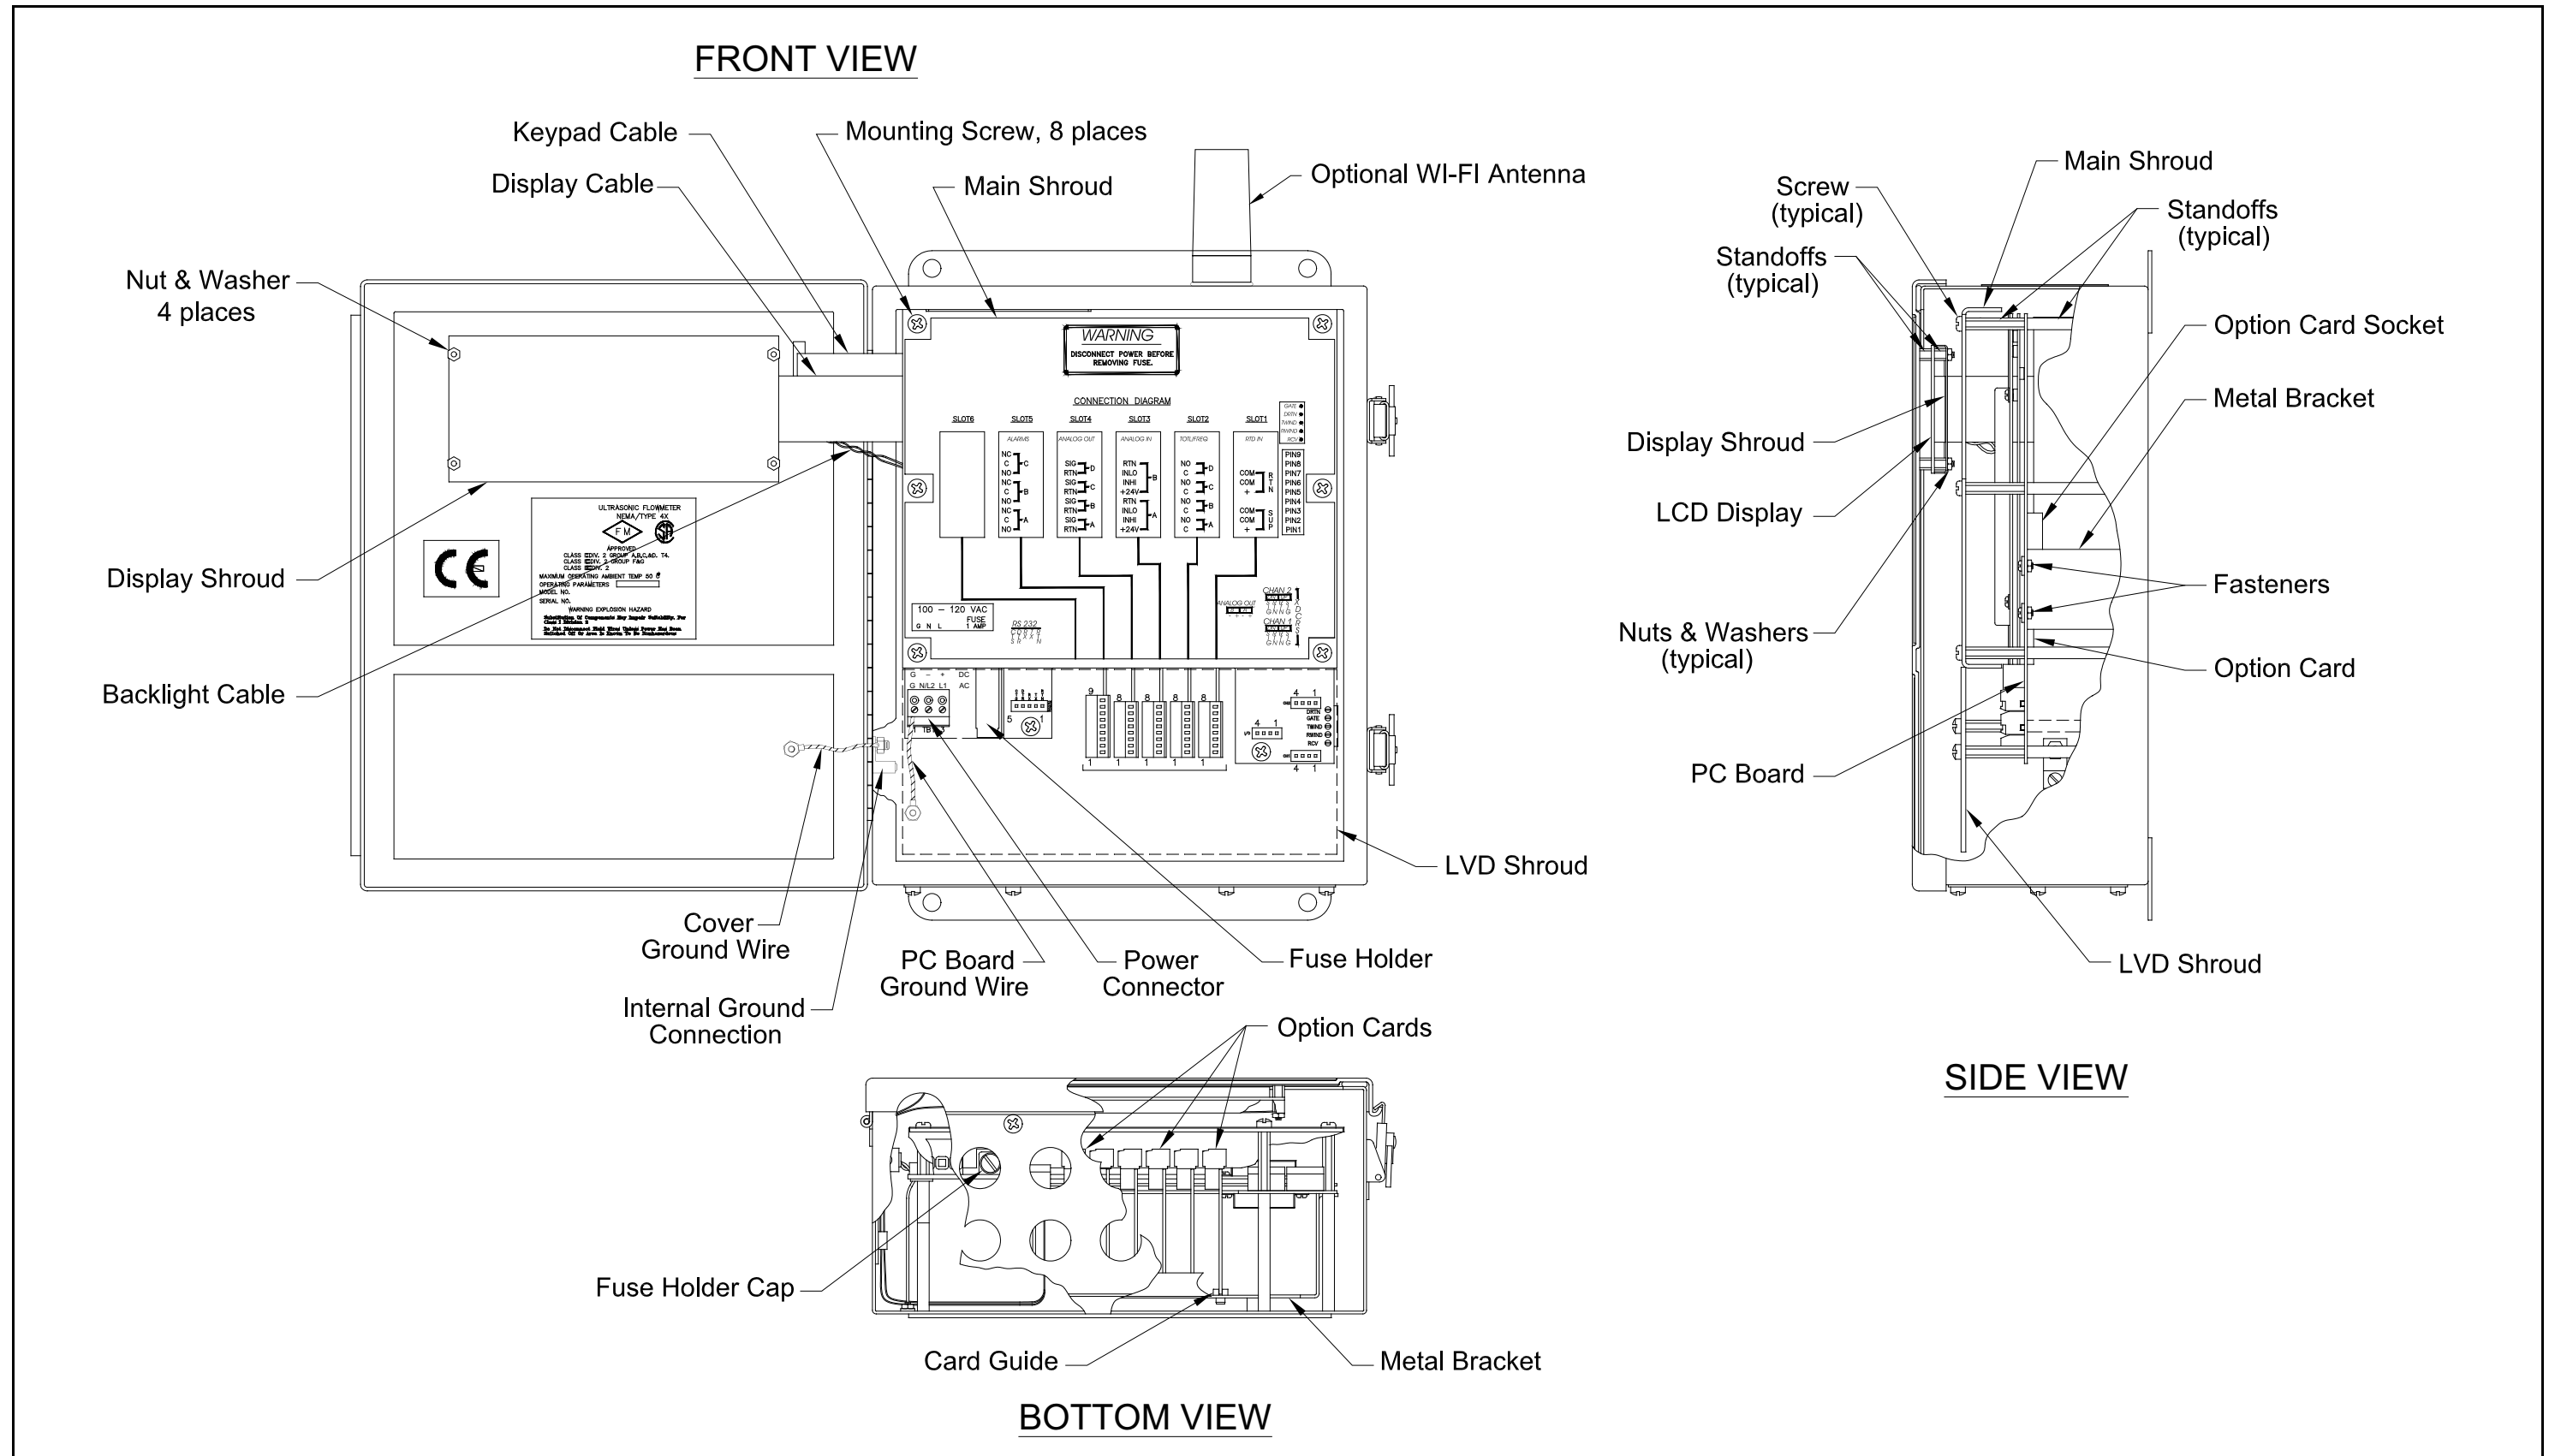
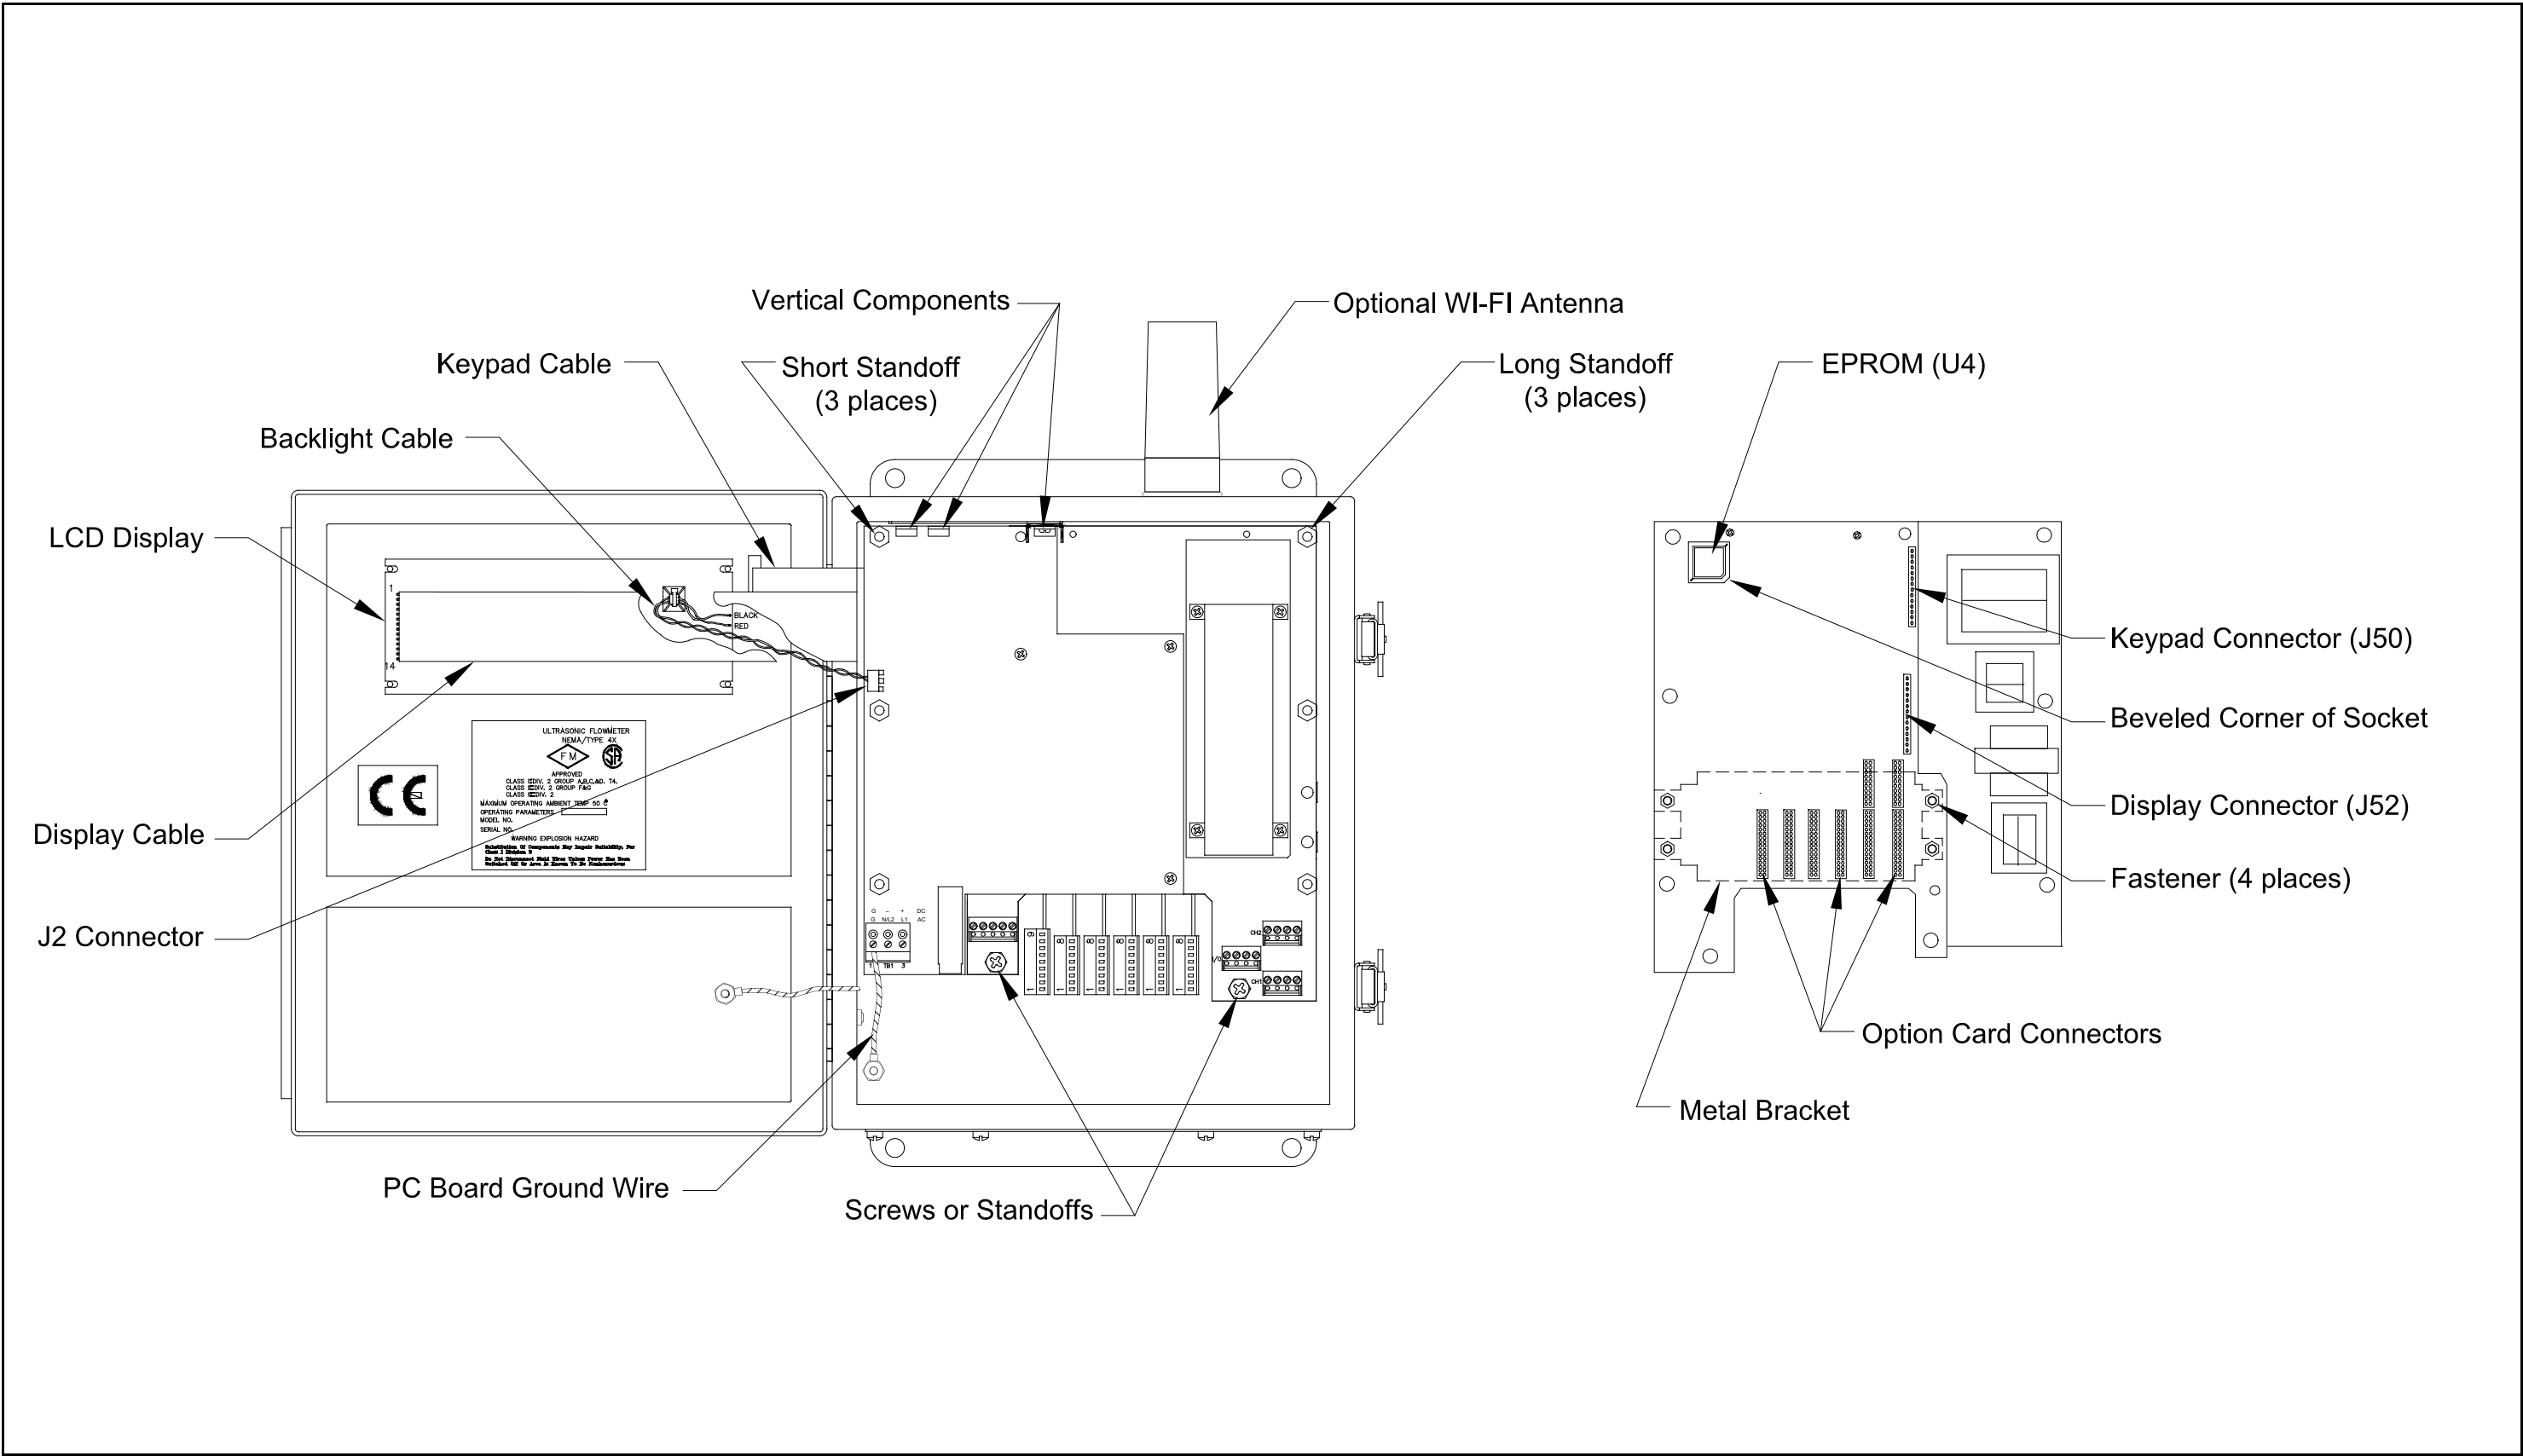

Figure 8: Standard Model DF-868 - Electronics Console Assembly
Figure 9: Standard Model DF868 - Printed Circuit Board Assembly
2. Locate the black plastic fuse holder that is mounted on the printed circuit board between the power terminal block (TB1) and the RS232 terminal block. As shown in Figure 8 on page 35, the fuse holder extends below the main aluminum shroud, and the fuse holder cap is located on the bottom of the fuse holder.
All of the remaining maintenance procedures discussed in this chapter require removal of the printed circuit board. Refer to Figure 8 on page 35 and Figure 9 on page 36 while completing the following tasks:
CAUTION! During this procedure, be very careful not to damage the upright components along the top edge of the printed circuit board (see Figure 9 on page 36). Severe or repeated bending will break the component leads.
The Model DF868's *User Program* is stored on an erasable programmable read only memory (EPROM) chip. The EPROM, which is designated as component **U4**, is located in the top left corner of the rear of the printed circuit board. See Figure 9 on page 36 for a rear view of the printed circuit board. EPROM replacement may be required to replace a defective chip or to upgrade to a newer software version. To replace the EPROM, complete the following steps:
To install an option card, refer to Figure 9 on page 36 and complete the following steps:
5. Place the metal bracket over the option cards, making sure that all option cards are aligned with the plastic card guides in the bracket. Secure the metal bracket to the printed circuit board with the snap rivets provided. See the installed assembly in Figure 8 on page 35.
The Model DF868's measurements are displayed on a two-pane LCD graphic display panel. The LCD display normally provides years of dependable service, but it is easily field-replaceable when necessary. To replace the LCD display, see Figure 8 on page 35 for the component locations, and complete the following steps:
4. Place the new LCD display assembly over the mounting studs on the console cover and fasten it in place with the four standoffs. Make sure that the LCD display assembly is oriented as shown in Figure 9 on page 36.
Whether the printed circuit board was removed for replacement or for one of the other procedures discussed in this chapter, reinstallation of the printed circuit board is the final step in the process. Refer to Figure 8 on page 35 and complete the following steps:
CAUTION! During this procedure, be very careful not to damage the vertical components along the top edge of the printed circuit board (see Figure 9 on page 36). Severe or repeated bending of these components will break their leads.
1. Position the printed circuit board within the electronics console with the top edge tilted forward. Insert the display ribbon cable and keypad ribbon cable connectors into their sockets on the rear of the printed circuit board. See Figure 8 on page 35 and Figure 9 on page 36 to identify the cables and sockets. Note that the keypad cable connects to the upper socket and the display cable connects to the lower socket.